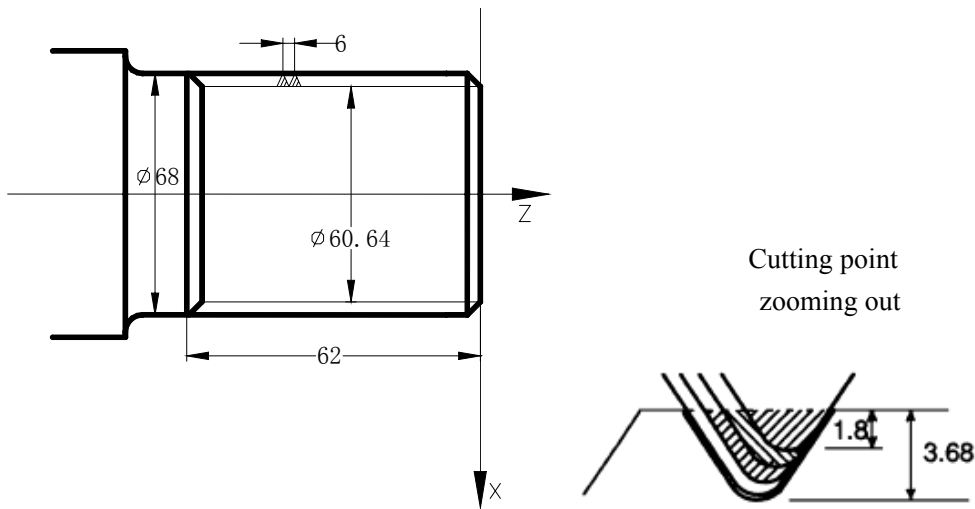

Fig. 3-44
- The direction of A→C→D→E is defined by signs of U,W , and the direction of C→D is defined by the sign of R (i) . There are four kinds of sign composition of U, W corresponding to four kinds of machining path as Fig. 3-44.
Example: Fig. 3-44, thread M68 × 6.